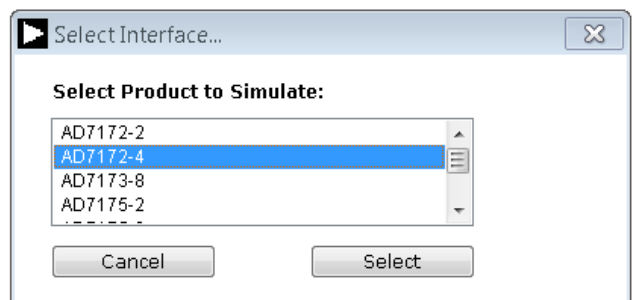

Figure 14. Evaluation Board Selection Simulation
4. The AD717x Eval+ can also be used without connecting hardware. Click the **Simulation** button and the options shown in Figure 14 appear. This uses a software model and allows the **AD7172-2**, **AD7172-4**, **AD7173-8**, **AD7175-2**, **AD7175-8**, **AD7176-2** or **AD7177-2** to be evaluated.